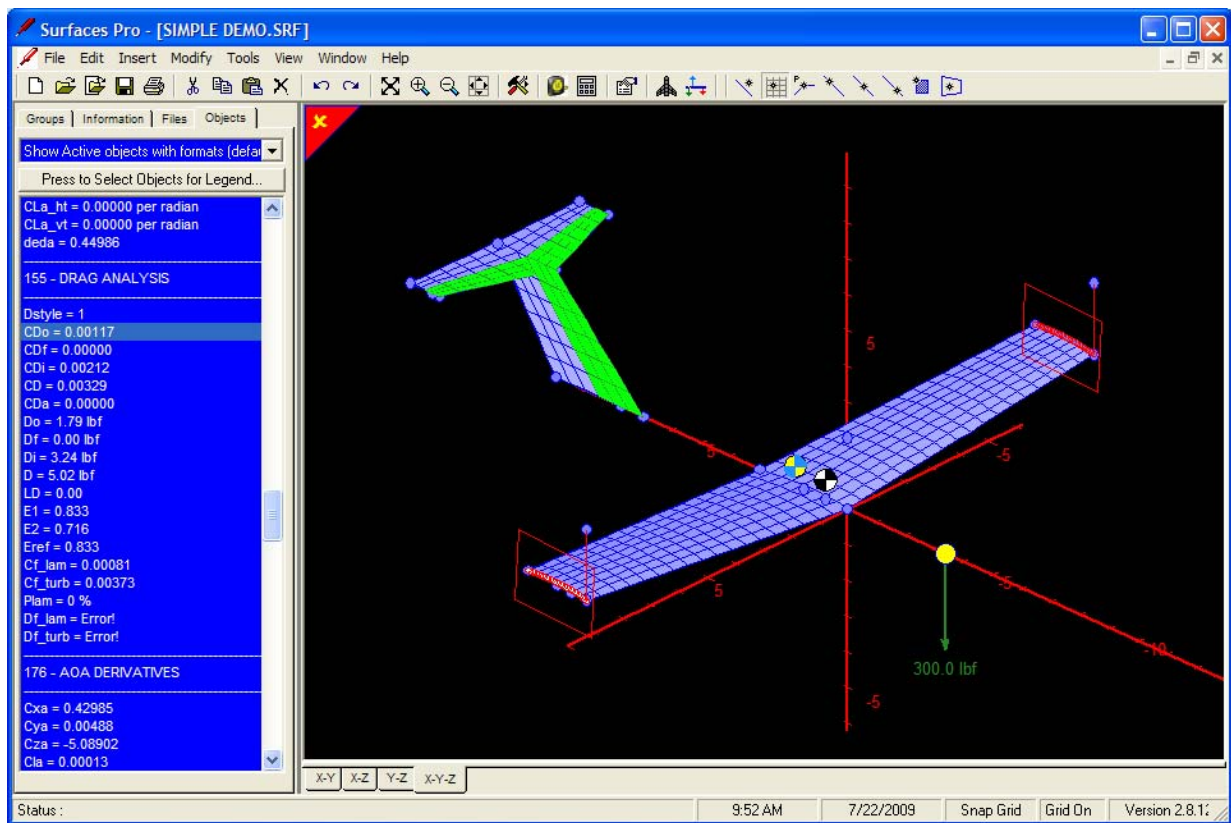

Figure 9-10: Selecting the wing tip vector in Step 9.10.
STEP 9.10 Select the wing tip vectors as shown in Figure 9-10.